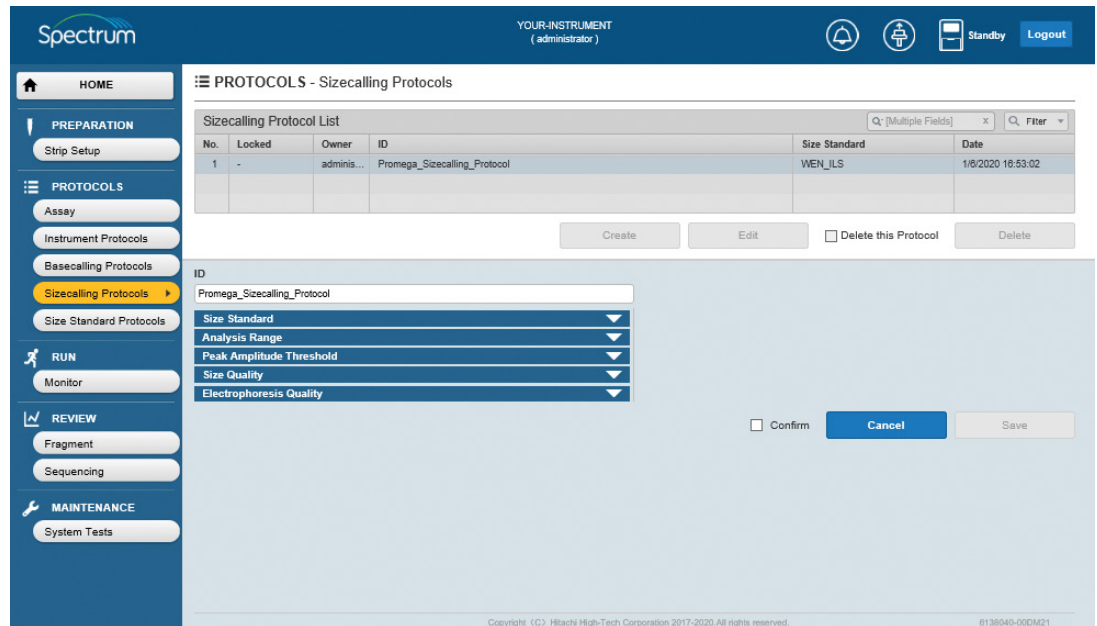

Figure 62. 'Sizecalling Protocols' edit screen with active fields.
8. Select **Edit**. This will enable the ID field as well as the **Size Standard, Analysis Range, Peak Amplitude Threshold, Size Quality** and **Electrophoresis Quality** pull-down menus (Figure 62).